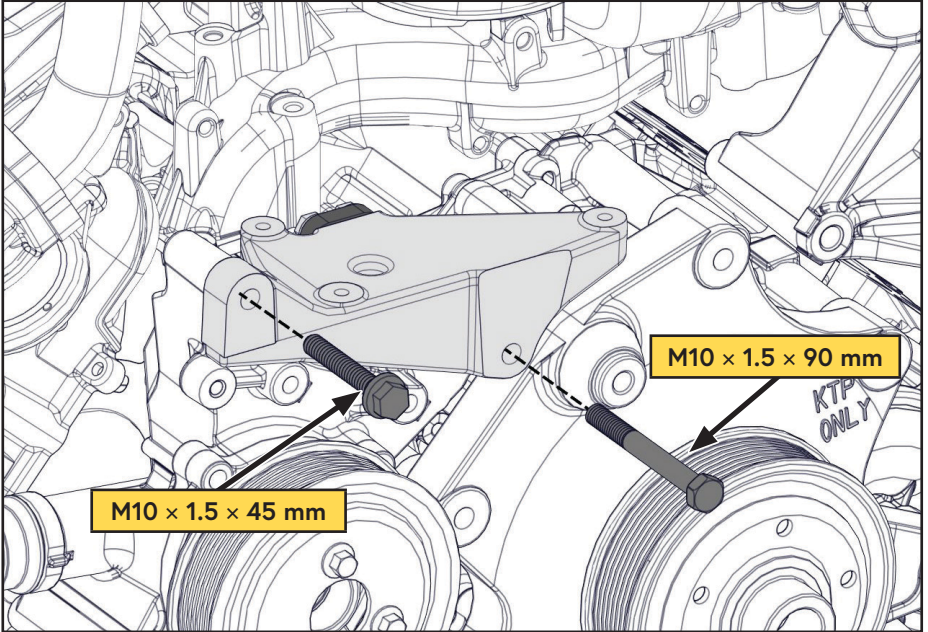

Figure 15 — Mounting the compressor onto the engine
- Install the compressor and main bracket assembly onto the engine (Figure 15).